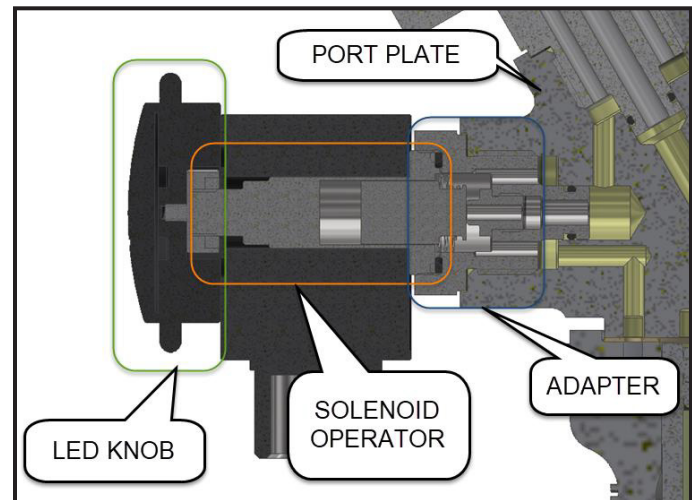

Figure 13: Install and Remove Solenoid Coil over the Solenoid Operator.
- Identify the parts, see Figure 13.